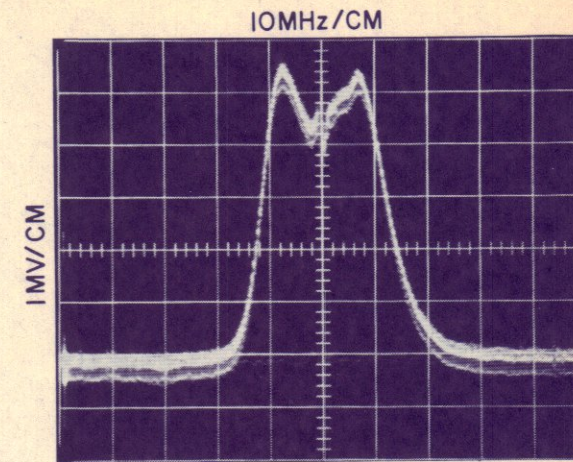
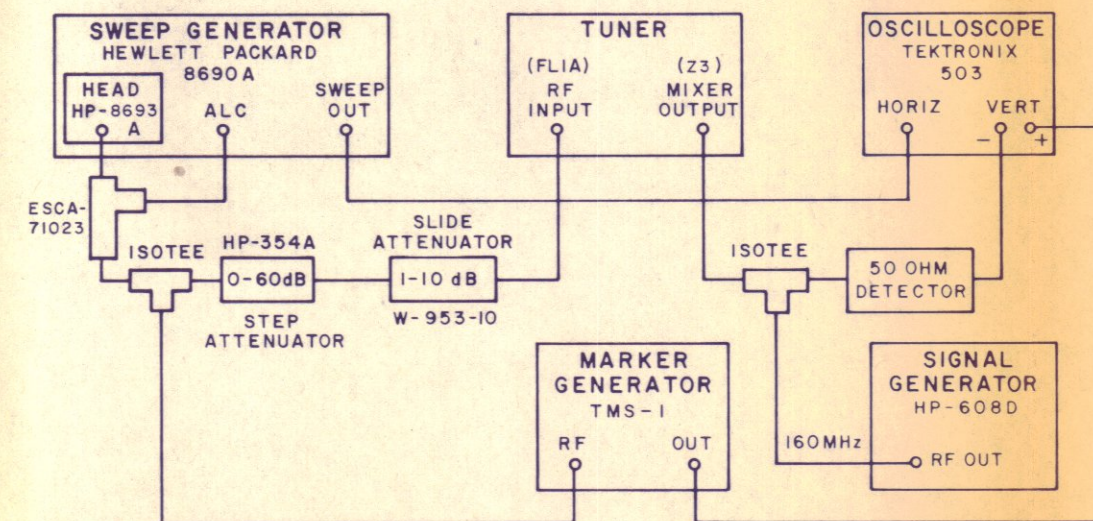

Figure 4-1e. Typical Tuning Head Overall Response
Figure 4-1d. Equipment Connections, YIG Filter and LO Tests
- (1) Determine that adequate output power is available from the VFO by performing the procedure as stated in paragraph 4.5.3.
- (2) Interconnect the test equipment as shown in Figure 4-1d, page 4-12.
- (3) Tune the TH-480B to 4000 MHz. Adjust the HP-8690A controls to sweep the 4-8 GHz range.
- (4) Activate the TMS-1 100 MHz markers.
- (5) Identify the 4000 MHz marker. Reduce the sweep width to expand and display the TH-480B IF response which should be approximately centered on the 41000 MHz marker. A typical overall response is shown in Figure 4-1e.
- (6) Tune the TH-480B and sweep generator through the 4000-8000 MHz band stopping every 400 MHz and checking the overall response.
- (7) The tape dial on the TH-480B should read correctly within 1% at each point and the response should be approximately centered on the marker, or close enough to center to ensure a 22 MHz minimum and 25 MHz maximum response to the 3 dB points.
- (4) Connect the equipment as shown in Figure 4-1d, page 4-12.